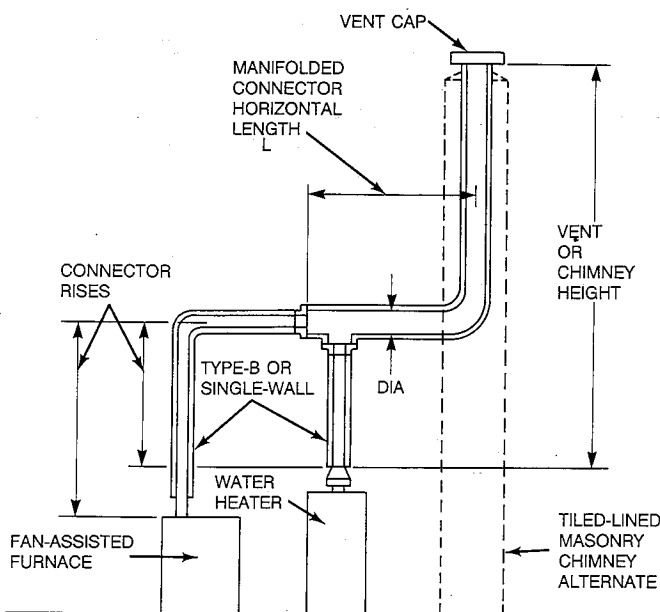

Figure 5—Manifolded Vent Connectors for Use With Tables 1 through 8
- d. Vent connectors may be manifolded (common-vented below the vent) as noted in the table below and as shown in Figure 5. A manifolded connector shall be sized as a common vent (not a connector) with the same table used to size the connectors and common vent. If the vent or furnace connector is Type-B, the manifold connector shall also be Type-B. For a chimney sized with Table 7 or 8, single-wall pipe may be used for a manifolded connector, but Type-B is recommended.